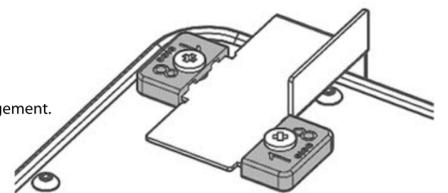

Fig 3a
- 4) Assemble the release levers and the rear slide catch (See Fig 3). (Note: Be sure that the rear slide catch is assembly in the right position, when it is installed you have to see the plastic part with number 18(See Fig 3a))